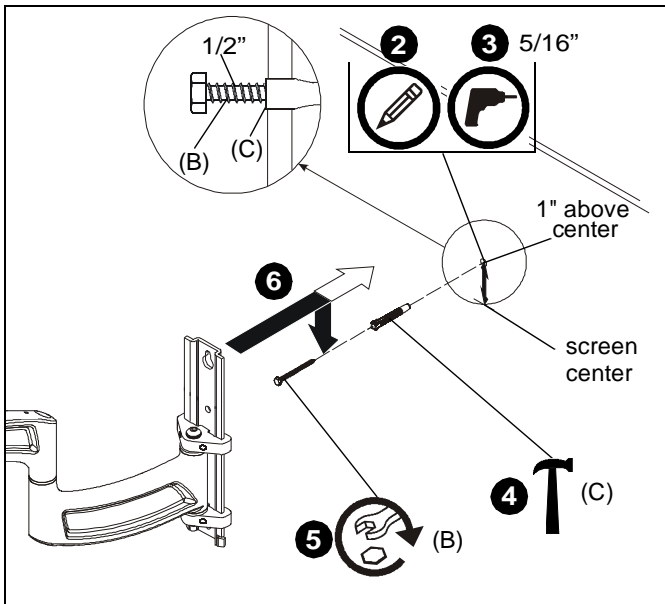

Figure 3
2. Measure 1" above desired center line and mark a hole at desired mounting location. (See Figure 3)
**IMPORTANT ! :** Use a level to make sure arm assembly (Z) is level when mounted to the wall!
3. Drill one 5/16" diameter hole at location marked in Step 2 with a depth of 3 1/4". (See Figure 3)
4. Install one concrete anchor (C) into drilled hole. (See Figure 3)
5. Install one 1/4 x 2 1/2" lag bolt (B) into concrete anchor (C), leaving bolt hanging out 1/2" from the wall. (See Figure 3)
6. Hang arm assembly (Z) onto lag bolt (B) by latching key-shaped hole over top of bolt. (See Figure 3)